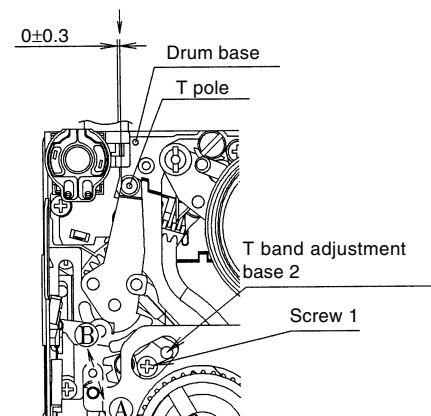

Fig.4 Adjusting of position (tape exists)
Check that the tension pole is located in the prescribed position as shown in Fig.4 at the start of a 60-minute tape.
### (2) Adjusting (See Fig.4.)
(For how much the T band adjustment base is to be shifted, refer to Fig.4.)